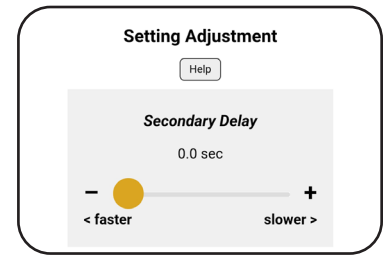

Figure 43
- Set the Secondary Delay time (if the secondary door needs to stall slightly before opening) (Figure 43)